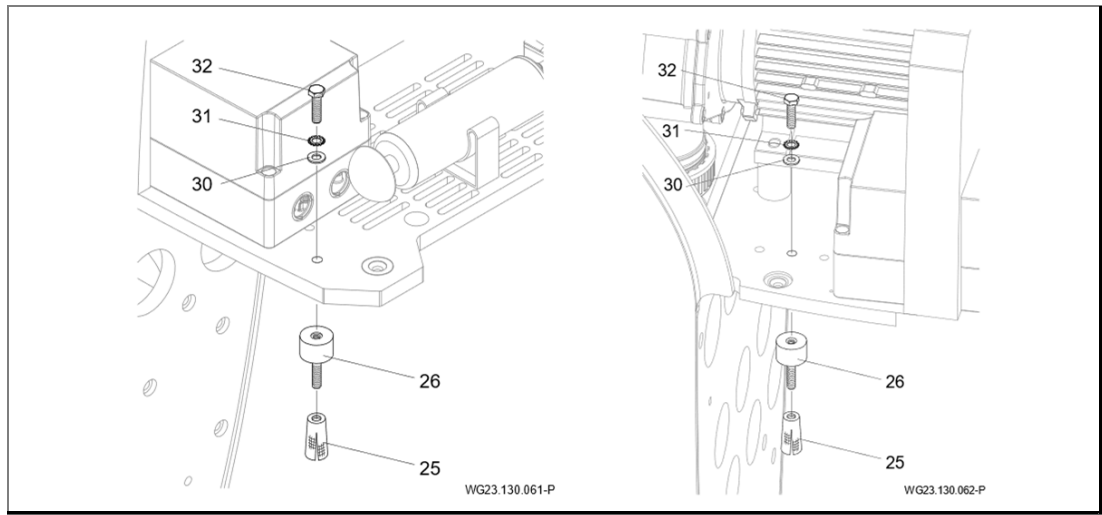

Fig. 6
- ➔ Insert brass dowels (25) and screw on the metal vibration buffers (26). "Fig. 6" on page 20 and .
- ➔ Set the unit on the metal vibration buffers and secure it with hexagonal bolts (32), toothed locked washers (31) and flat washers (30). "Fig. 6" on page 20.